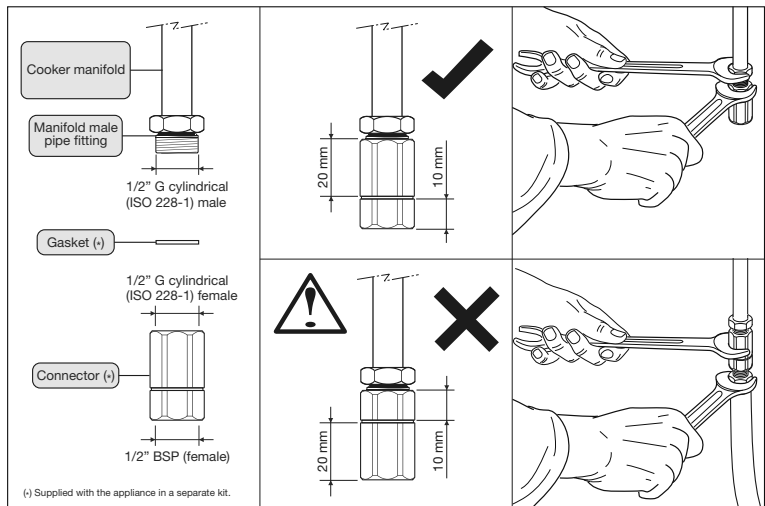

Fig. 6b
- Fit the 1/2" BSP (female) connector (supplied with the cooker in a separate kit) to the gas inlet at the rear of the cooker interposing the gasket. Check the correct positioning of the connector as shown and always use two suitable spanners (Fig 6b).
- To avoid damage to the appliance gas rail inlet pipe tighten the fittings using two suitable spanners (Fig. 6b).